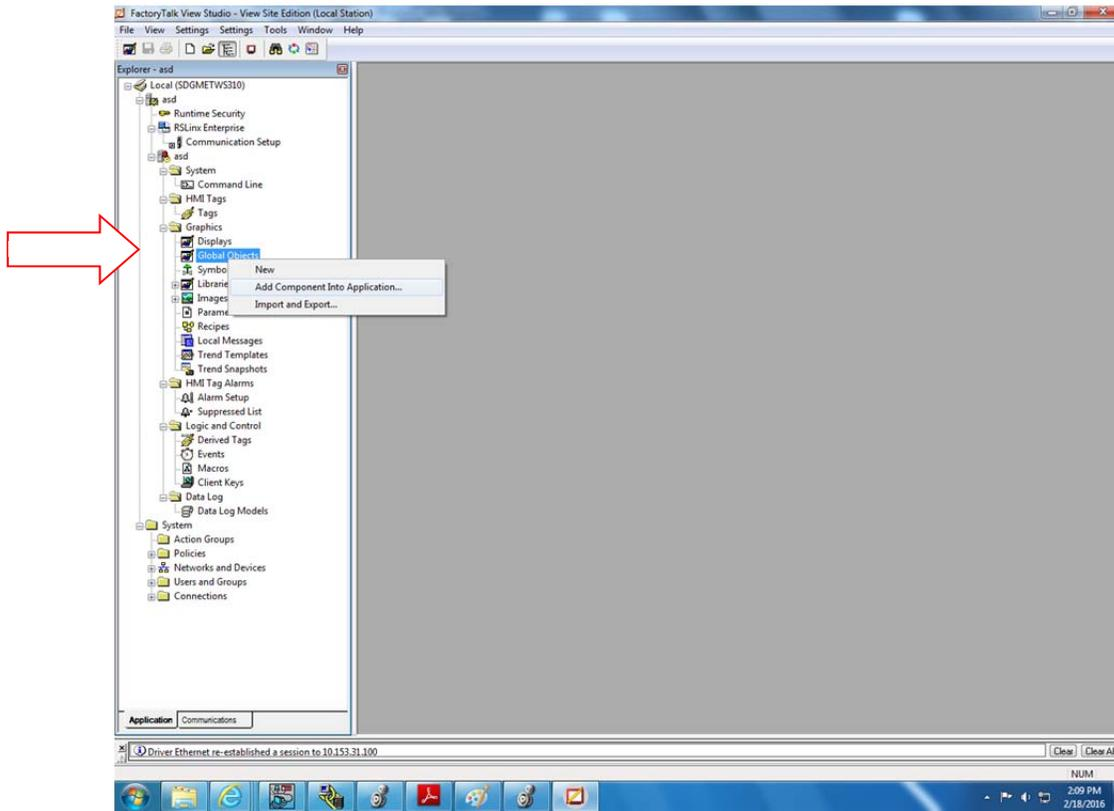

Figure 20
- Right click on Global Objects and click on 'Add Component into Application', look for the faceplate file (Hardy_HI6500_ME.ggfx to add under global objects. See Figure 20. If multiple HI 6500 instruments are used, make copies of the Hardy_HI6500_Faceplate_ME file and assign different names for each instrument.